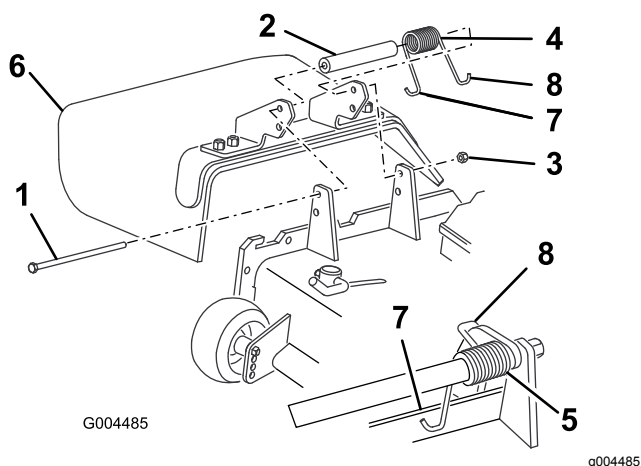

Figure 36
- (Figure 36). Remove the damaged or worn grass deflector.
Note: Ensure that the L-end of the spring is installed behind the cutting unit edge before installing the bolt as shown in Figure 36.
- Install the bolt and nut. Place the J-hook end of the spring around the grass deflector (Figure 36).